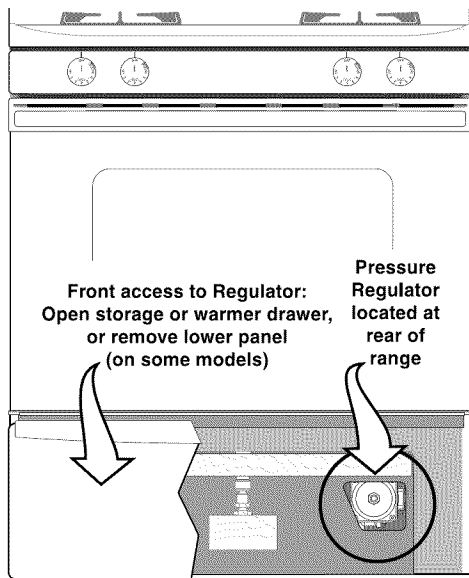

FIGURE 2
- Pull the drawer away from the range (See Figure 2).